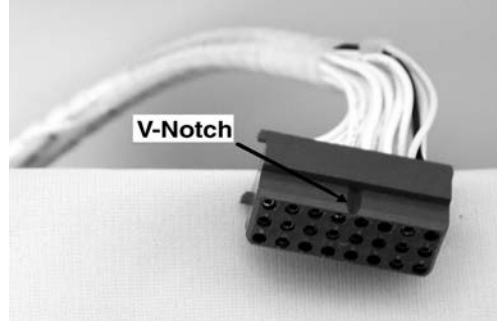

Figure 7 M-2001 Harness Connector
■ **NOTE:** The blue connector is keyed by a "V" notch in the middle to prevent incorrect mating (Figure 7). Check location of the key before plugging connector into the M-2001.